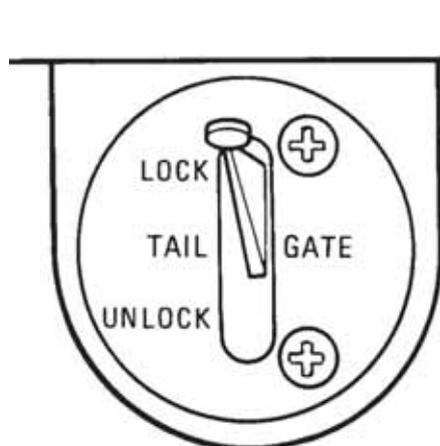

Figure 5 Tailgate Lock Control
- (3) The tailgate release switch (Figure 5) is located below the dashboard on the right-hand side. This controls the locking and unlocking of the lower edge of the tailgate.